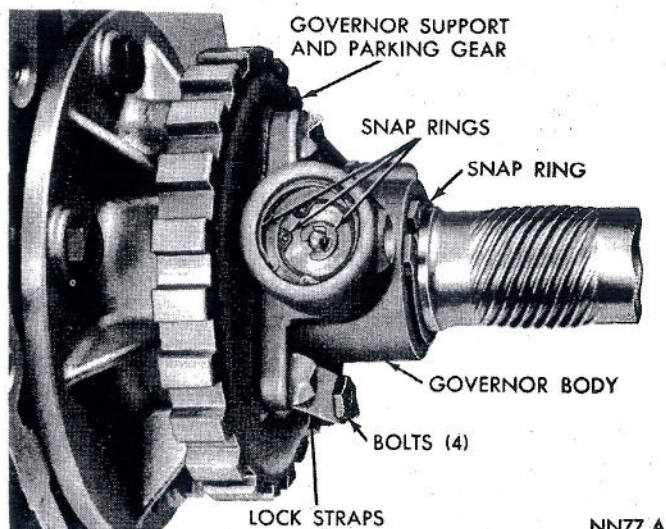

Fig. 11—Governor Shaft and Weight Snap Rings
(1) Remove extension housing and output shaft bearing as previously described.
(2) Carefully pry snap ring from weight end of governor valve shaft (Fig. 11). Slide valve and shaft assembly out of governor body.
(3) Remove large snap ring from weight end of governor body, lift out governor weight assembly.